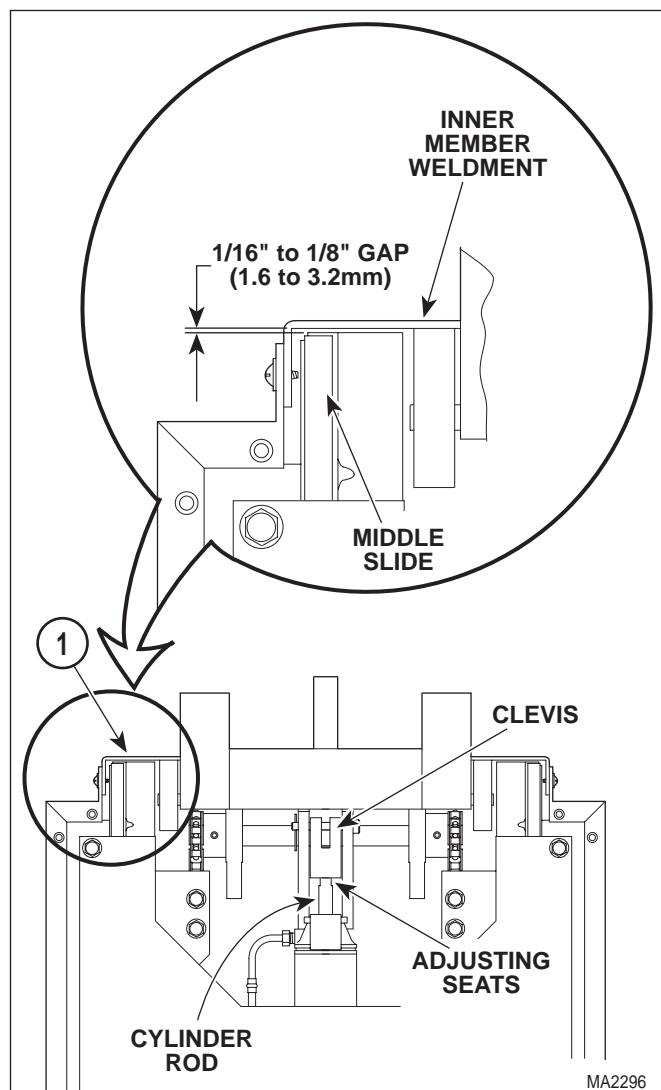

Figure 4-20. Base Cylinder Clevis Adjustment
- (11) Lower BASE DOWN function all the way down.
- (12) See Figure 4-20. If there *is not* a 1/16 to 1/8 inch (1.6 to 3.2 mm) gap between inner member weldment and top of middle slide when the BASE DOWN function is completely lowered (it is especially important that the inner member weldment does not come into contact with top of middle slide), perform steps 13 thru 15. If gap is correct when the BASE DOWN function is completely lowered, go to step 16.